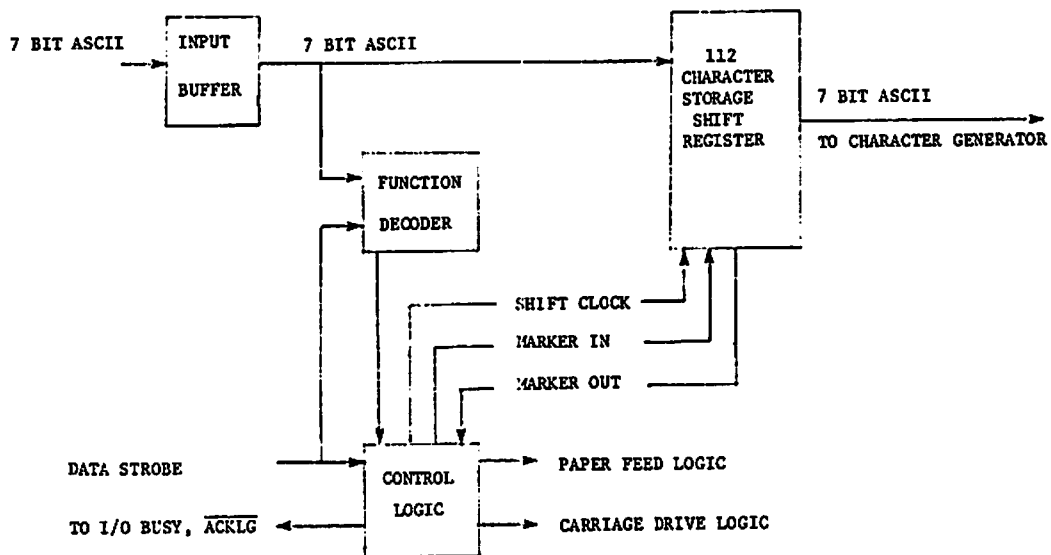

FIGURE 4-5 I/O CONTROL & CHARACTER STORAGE
4.2.4 I/O CONTROL AND CHARACTER STORAGE (Figure 4-5)